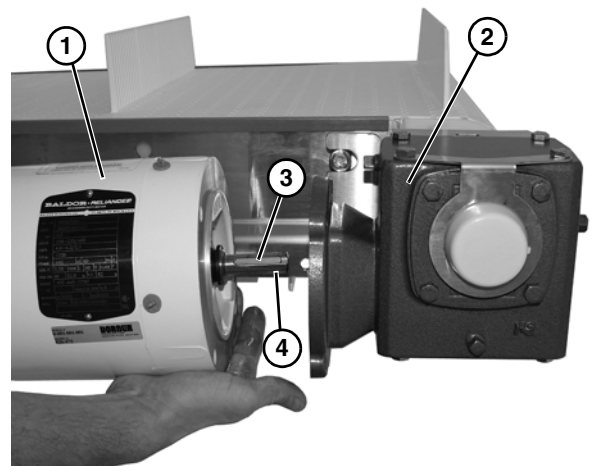

Figure 11
2. Slide motor (Figure 11, item 1) off of gear reducer (Figure 11, item 2), and remove shaft key (Figure 11, item 3) from motor shaft (Figure 11, item 4).